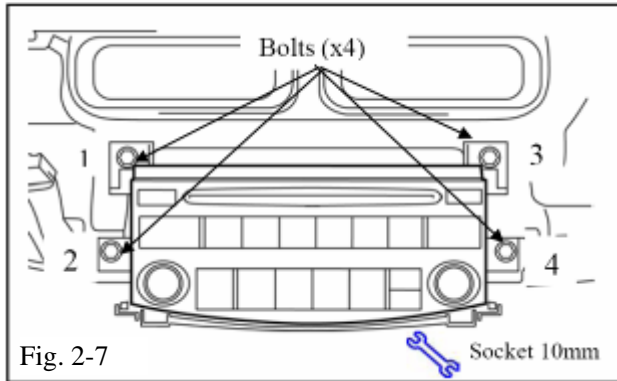

Fig. 2-7
(6) Remove the head unit. (Fig. 2-7)
(7) Disconnect the head unit connectors.